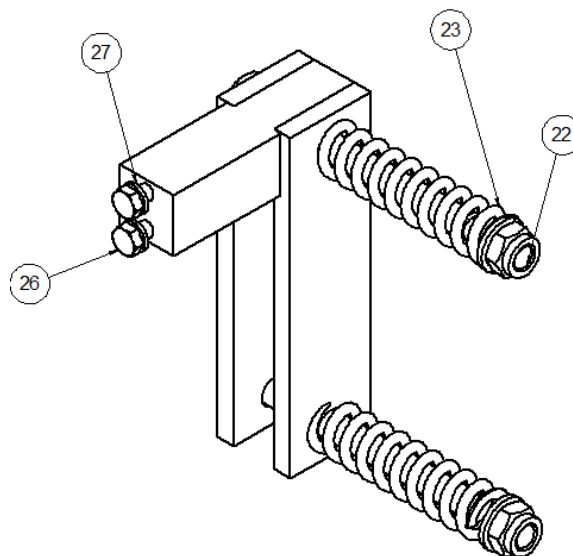

Figure 3: Tensor Assembly
Fix the tensing unit via two M5X14 DIN 933 screws (26) and two M5 DIN0127 Grower washers (27) to the support plate (1). See Figure 3 and